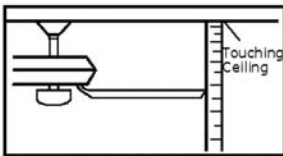
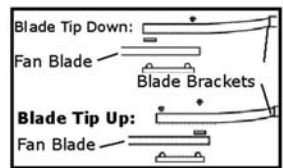

Figure 1
Figure 2
5. Most fan wobble problems are caused when blade levels are unequal. Check this level by selecting a point on the ceiling above the tip of one of the blades. Measure this distance from blade tip to ceiling (Figure 1). Keeping measure within 1/8", rotate the fan until the next blade is positioned for measurement. Repeat for each blade. If all blade levels are not equal, you can adjust blade levels by the following procedure. To adjust a blade tip down, insert a washer (not supplied) between the blade and blade holder at the screw closest to the motor (Figure 2). To adjust a blade tip up, insert washer (not supplied) between the blade and blade holder at the two screws farthest from the motor (Figure 2). Reverse the position of the washer if blades mount from top of blade.